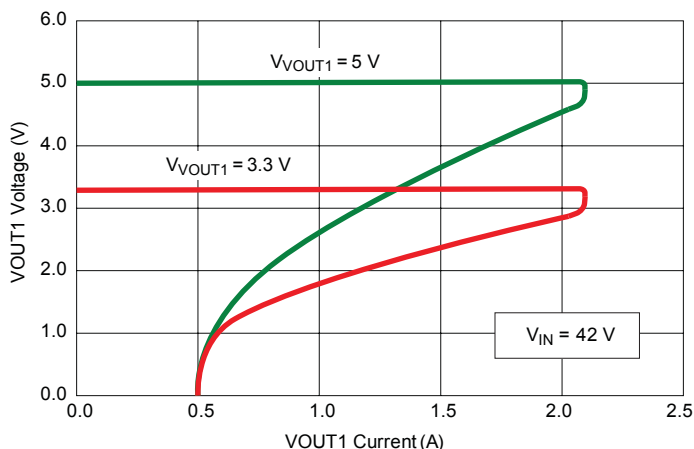

Figure 2. Switcher current limit with foldback
The overcurrent limit has a foldback feature to reduce the current limit when the output is overloaded (see figure 2). The voltage at the feedback pin (FB) is monitored to determine which current limit level to use. As the feedback voltage rises above approximately 400 mV, the foldback circuit is disabled.